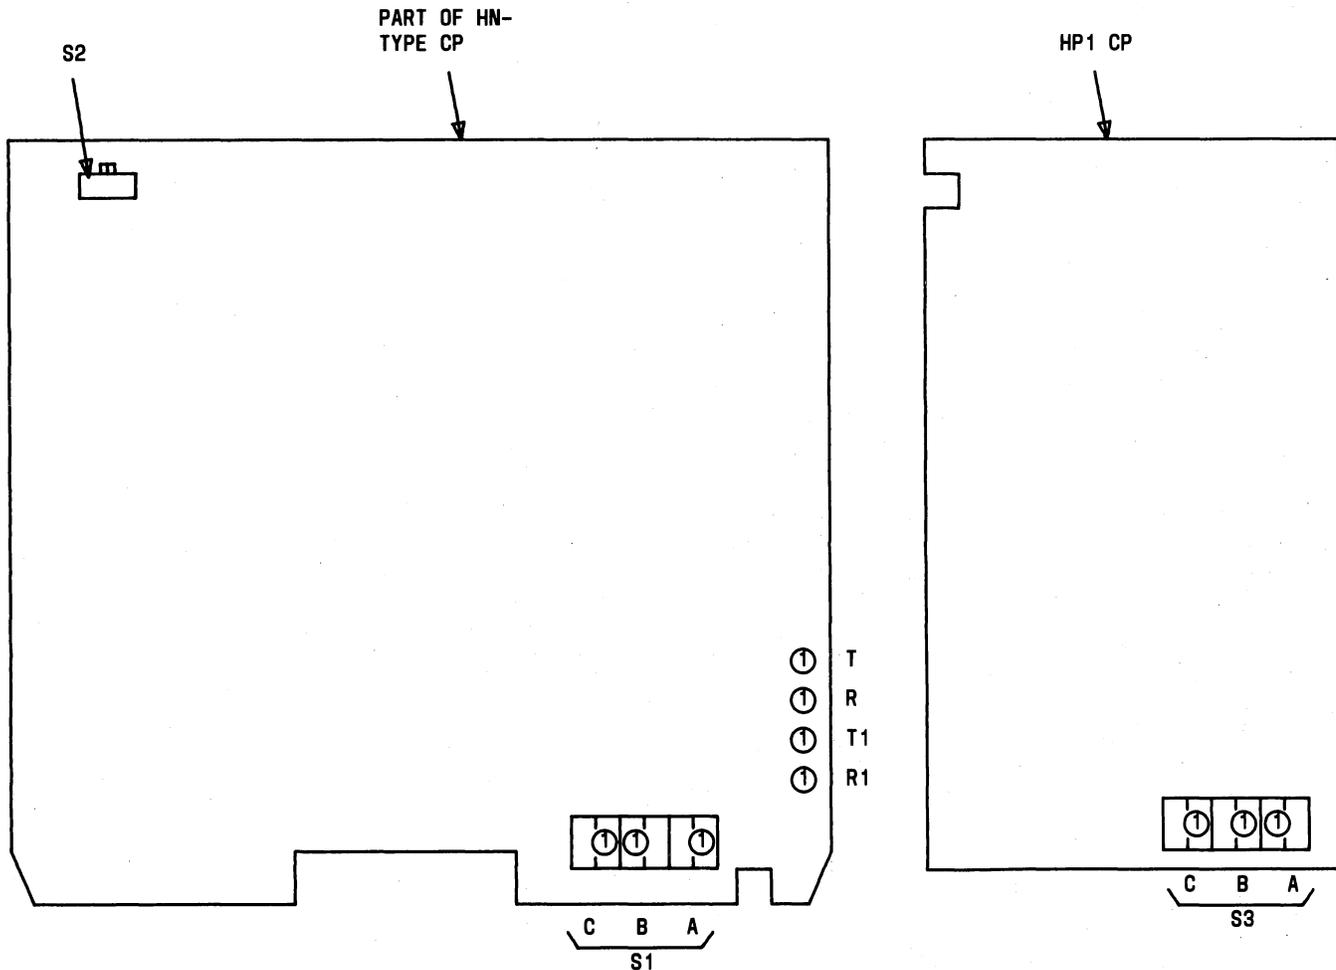
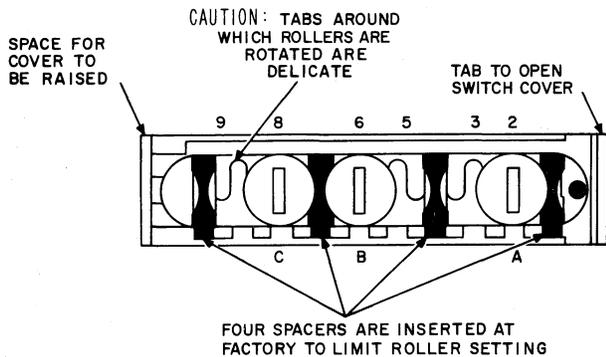

Fig. 1—DSU Option Switches
Fig. 2—Detail of Switch for Installing Options
2.02 ♦Circuit packs (CPs) used in the DSU are given in Table A. For the earlier manufactured CPs that use the KS-20983-L2 switch the HP1 CP contains switch S3, and HN-type CPs contain switches S1 and S2 which are used to select the specific options. The switch locations are shown in Fig. 1 and the options are given in Table B. Figure 2 shows the three sections or rollers: A, B, and C of switches S1 and S3.♦ To access the switch rollers, the hinged protective cover must first be opened by raising it from the end marked with a dot. Each switch section roller is individually adjusted to one of two positions by using the screwdriver provided to *gently* rotate the adjustable roller. Switch positions are numbered as shown on the protective cover.